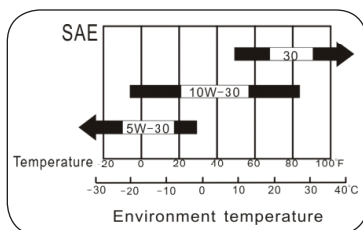

FIGURE 2
Check the engine with it stopped on a level ground. Engine oil recommended: SAE-30. **SEE FIGURE 2.** As viscosity varies with regions and temperatures, so the lubricant has to be selected in accordance with our recommendation.
3. Reinstall drain plug. Remove dipstick (if applicable) or oil fill cap. **SEE FIGURE 2.**